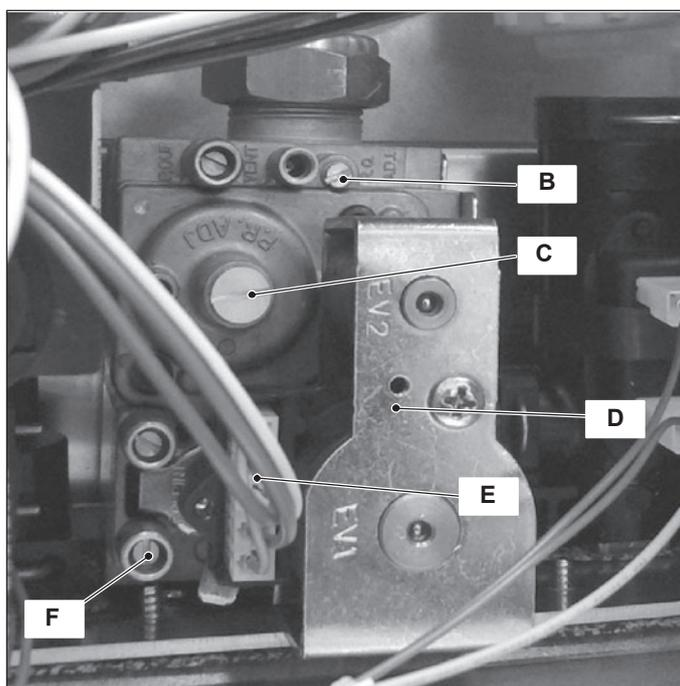

Figure 11.2
11.2 Description of the parts - (Figure 11.2)
- 3 Loosen the internal screw on the Inlet Pressure Test Point F (Figure 11.2) of the Gas valve and connect a pressure gauge using a suitable hose.
- 10 Disconnect the pressure gauge and close the Inlet Pressure Test Point F (Figure 11.2).
it and rotate the Allen key screw \varnothing 4 mm (C - Figure 11.2) (by rotating it clockwise the CO₂ % increases).
To adjust the CO₂ % value rotate screw (B - Figure 11.2) (by rotating it clockwise the CO₂ % decreases).
27 After adjustment fit the protective brass plug (C - Figure 11.2).
- 2 Disconnect the electrical connector E (Figure 11.2).